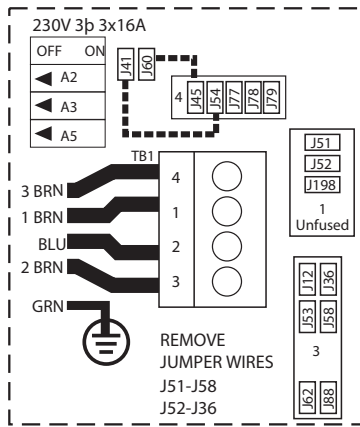

Figure 2
2. Only reinstall jumper wires as indicated by dotted lines in Figure 2.